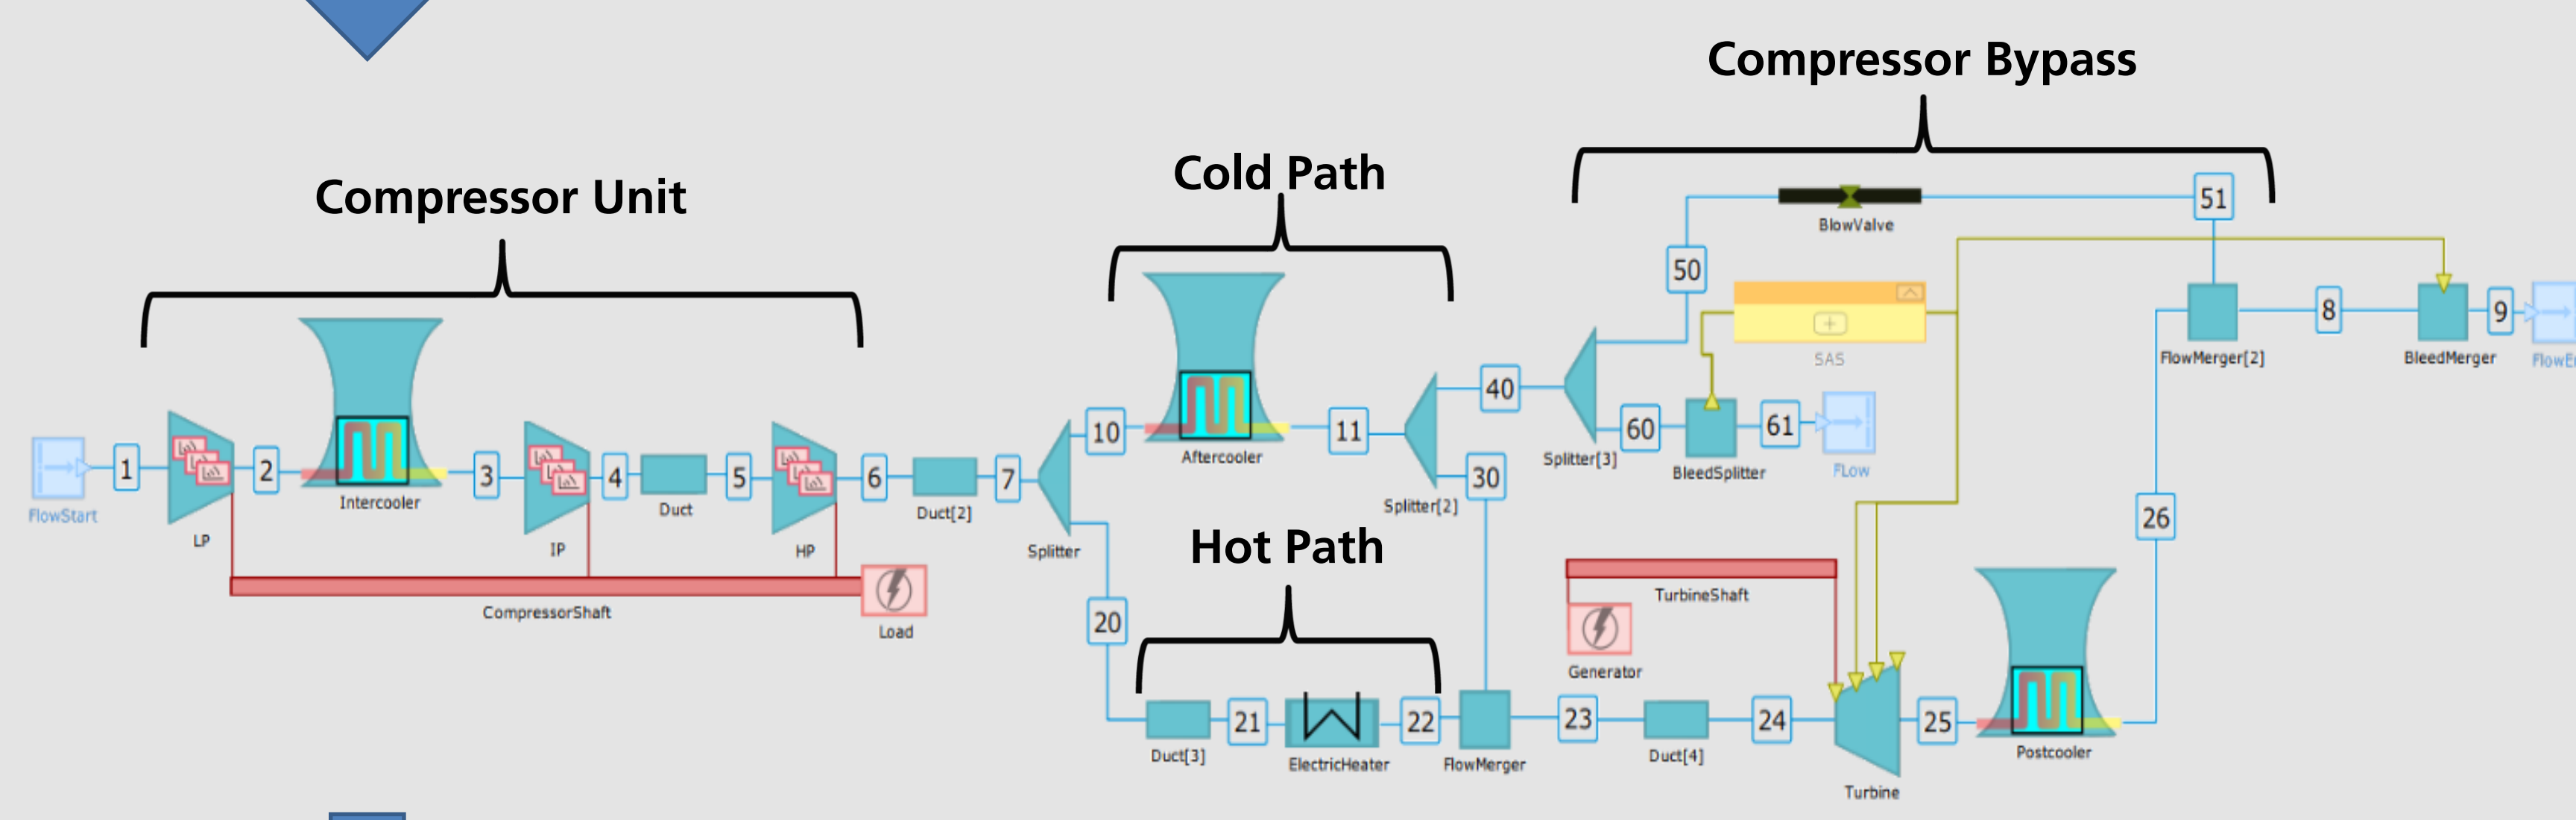

Figure 3: NG-Turb circuit (GTlab)
- Digital representations of the thermodynamic behavior for the main components (Fig. 3)